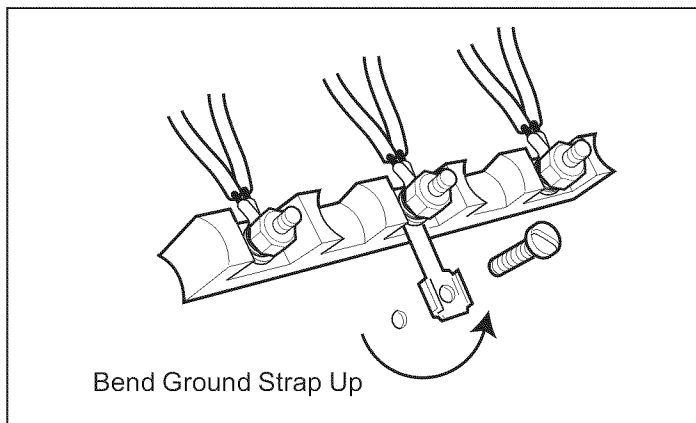

Figure 12: Ground Strap
Wiring for the unit is to be brought into the junction box through the conduit. The ends of the wiring must have 1/4" faston closed-loop lugs attached, preferably soldered in place. Make the connections to the terminal block provided. Secure the ground lead to the junction box with the screw previously used to secure the ground strap. Refer to Figure 12. The free end of the conduit must be connected to a junction box provided in the gas and electrical supply zone, as shown in Figure 3a on page 7.
2. Remove ground strap screw and bend the strap up as shown in Figure 12.